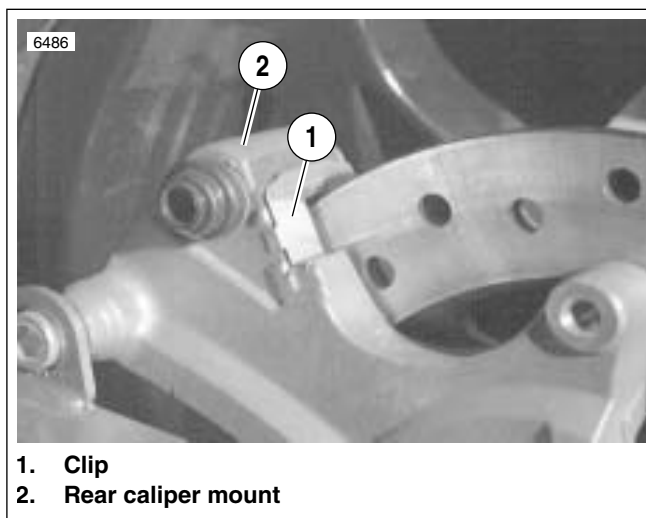

Figure 2-58. Caliper Mount Clip
1. See Figure 2-58. Install caliper mount clip (1) if removed.